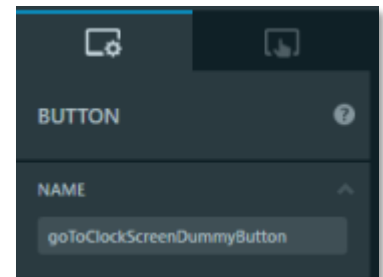

Figure 41
3. Only the names of the dummy buttons need be changed; the appearance and other properties of the buttons do not matter because the buttons will not be visible on the screen. With a dummy button selected, its name can be changed on the Settings tab (see Figure 41) located on the right side of the TouchGFX Designer window. These are “dummy” buttons because they are merely being used to generate code that can be used by the virtual function to change screens (not to mention that the Marlin display does not support touch screen buttons).